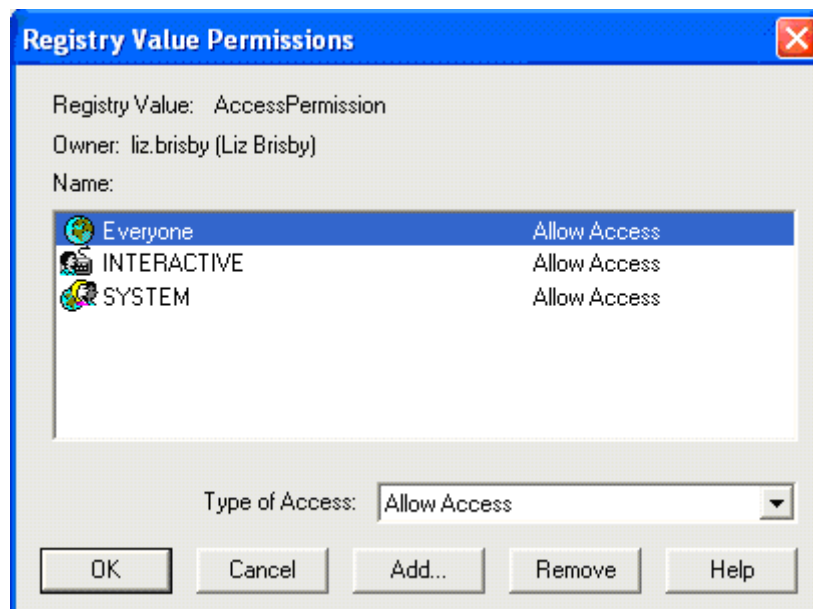

Figure 37 - Registry Value Permissions Window
8. The **Registry Value Permissions** window (Figure 37) appears.